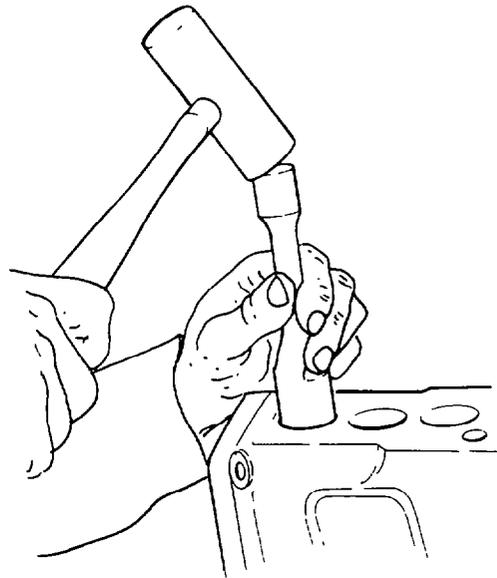

Fig. 95 — Driving Out Base Closure Plugs
- p. Fit a socket (approximately 33 mm 1 5/16 in. O.D.) into the hollow of the base closure plug (item 17) and drive the plugs into the pump cavity (see fig. 95).